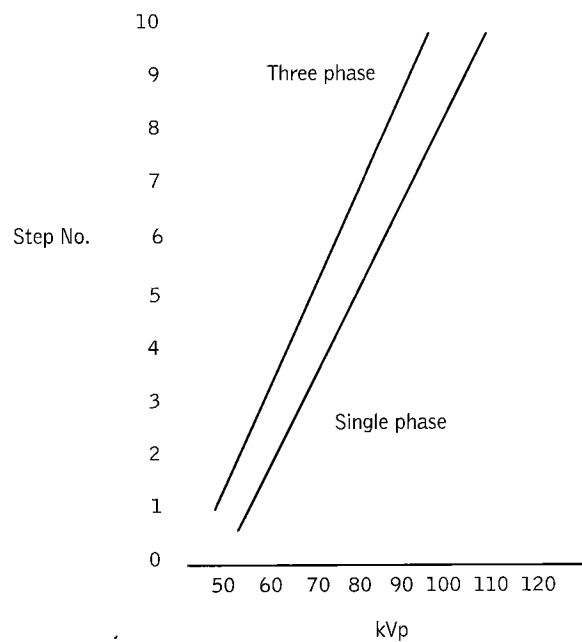

Fig 3-8. kVp test cassette calibration chart, suitable for region C (100 kVp)
- The chart will have two graphs on it, one for a **single phase** unit and one for a **three phase** unit (see Fig 3-8)